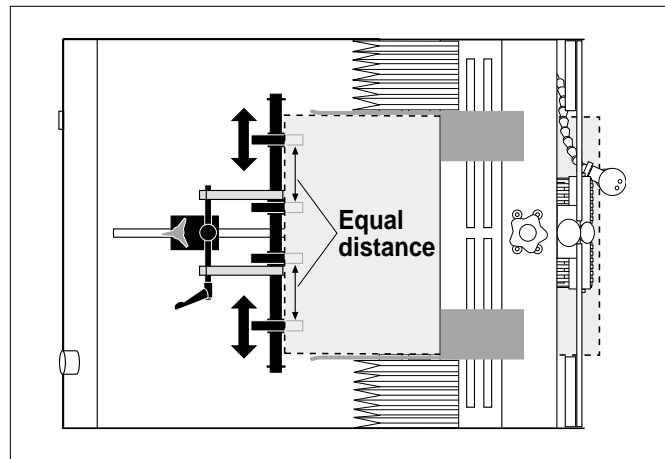

Figure 3-13. Evenly Adjusting Individual Wedges
6. Check that individual rollers are evenly spaced to provide enough support to lift the material off the table top and feed belts, without any bowing or twisting (Figure 3-13). Refer back to page 28 for guidelines on adjusting individual rollers for thinner material.